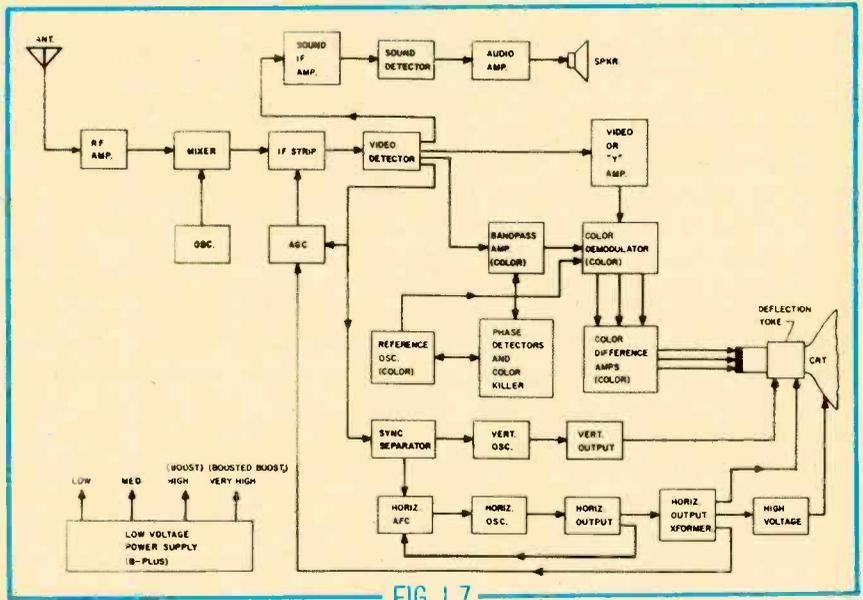

FIG. 1-7
**Amplifiers, Oscillators and Detectors.** Troubleshooting is easier if you take certain vantage points. And there is one that simplifies the analysis of most every stage in a color TV set: learn to look upon most stages in a TV receiver as being a variety of amplifier! The function diagram of Fig. 1-7 shows the main stages of a typical color receiver. Count how many amplifiers there are and you'll probably miss some. (This is a vacuum-tube set but transistor sets are similar.)
**Detectors, sometimes!** Several different tubes are used as detectors in color-TV sets. Inspect Fig. 1-7 again and you should see seven detectors of one kind or another. The mixer in the tuner can be considered a detector (as well as a low-gain amplifier) because it transfers the picture and sound modulation to a secondary carrier—the IF signal. The video and sound detectors are obvious, though they do use different systems (AM for video and FM for sound).